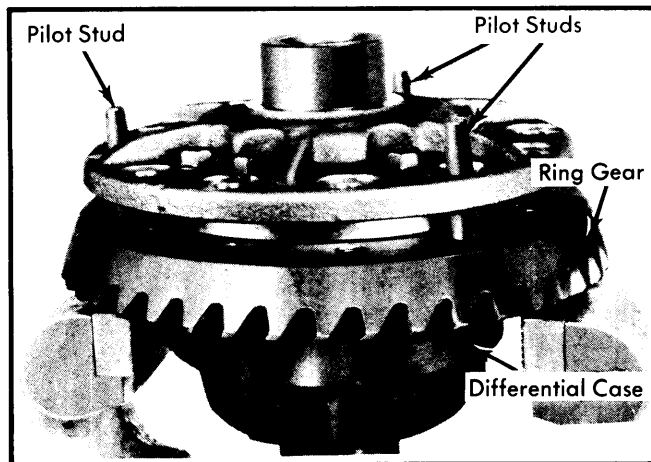

Fig. 3 Installing Ring Gear on Differential
4) Heat ring gear using heat lamp, hot oil or water; not to exceed 300°F. Do not use torch to heat ring gear. Install 3 equally spaced pilot studs on ring gear, place heated ring gear on jaws of vise and install case using new left-hand threaded bolts. See Fig. 3.